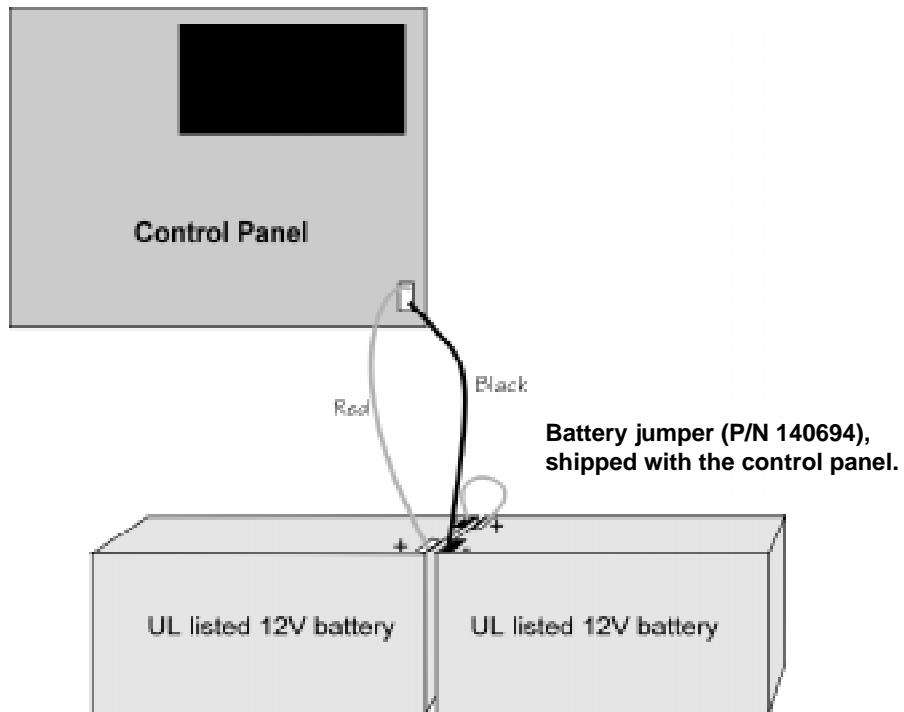

Figure 4-2 Battery Connection
2. Unplug the backup battery connector from the SK-2224 control panel. See Figure 4-2.
5. Reconnect the backup battery connector to the SK-2224 control panel. See Figure 4-2.